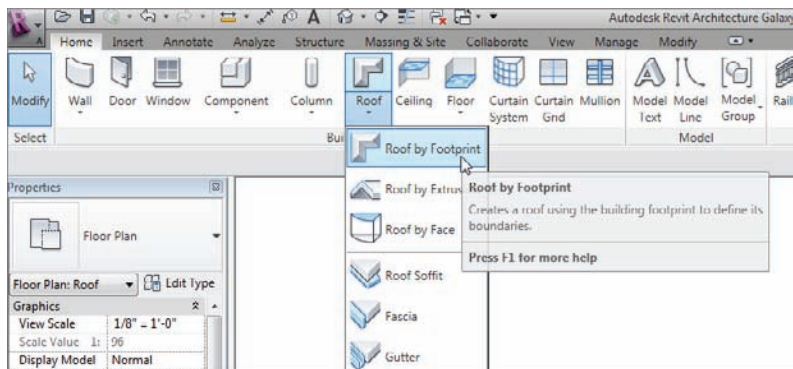

FIGURE 7.2 Clicking Roof By Footprint on the Home tab of the Design bar
5. On the Home tab, click Roof > Roof By Footprint, as shown in Figure 7.2.